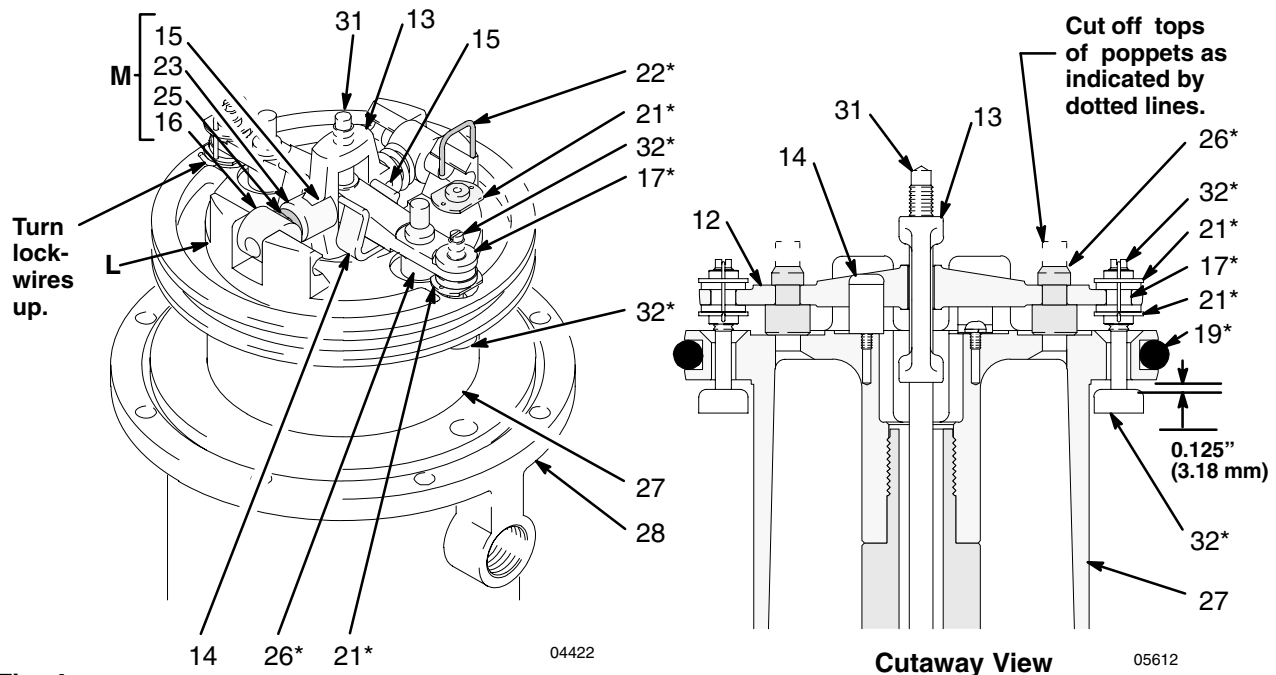

Fig. 4
10. Pull the piston assembly (27) from the air motor base (28), and set it aside.
11. Remove the throat bearing (36) with a 1 5/8-in. socket, remove the seal (2*), and wipe the seat clean with a cloth.
14. Use a screwdriver to push down on the trip rod yoke (13), and snap the toggles down. See Fig. 4.
(M in Fig. 4) up or down.
15. *In this step, while you are prying with the screwdriver with one hand, cover the toggle assemblies with your other hand so as to catch the spring-loaded toggle assemblies when they snap out of the lugs.* Place the tip of a screwdriver into the piston between the piston lugs (L) below the pivot pins (16) on the toggles, pry up with the screwdriver handle to compress the springs on the toggle assembly (M) up and away from the piston lugs, and remove the parts. See Fig. 4.
16. Straighten the lockwires (22*), and remove them from the valve nuts (21*). Screw the top nuts off. Remove the trip rod yoke (13), actuator (12), and trip rod (31). Unscrew the bottom valve nuts (21*), and remove the poppets inlet valve poppets (32*). Make sure the valve bar spring clips (14) are not worn or damaged and that they properly guide the actuator.
17. Remove the exhaust valve poppets (26) by cutting them with a side cutter, then pull them out of the actuator (12).
19. Check the surfaces of the air motor piston (27), displacement rod (29), and the wall of the air motor cylinder (30) for scoring or scratches. Scored or scratched surfaces cause premature packing wear and leaking.
1. Place the piston rod (29) flats in the vise with the air motor up.
2. Pull the exhaust valve poppets (26*) into the valve actuator (12), and clip off the top parts of the poppets (shown with dotted lines in the **Cutaway View** in Fig. 4).
3. Install the lower valve grommets (17*) in the actuator (12), place the inlet valve poppets (32*) in the piston, and thread the bottom valve nuts (21*) onto the inlet valve poppets until there are a few threads left before the threads run out.
4. Grease heavily and place the trip rod (31) in the piston, place the actuator (12) in the yoke (13), and place the well-greased actuator/yoke assembly in the piston, with the trip rod going through the center holes of the actuator and yoke and the inlet valve poppets (32*) going through the lower valve grommets (17*).
6. Install the toggle pins (15) in the yoke (13), place the toggle arm (23) ends of the toggle assembly (M) onto the toggle pins, and snap the pivot pin (16) ends of the toggle assembly into the lugs (L).
7. Measuring with the gauge (Part No.171818), create 0.125-in. (3.18 mm) of clearance between the inlet valve poppets (32*) and the piston seat when the inlet valve is open. See the **Cutaway View** Fig. 4.
Never re-use the old lock wires. They will get brittle and break easily from too much bending. When you install new lock wires, do not bend them too severely, or they may break. See Fig. 4.